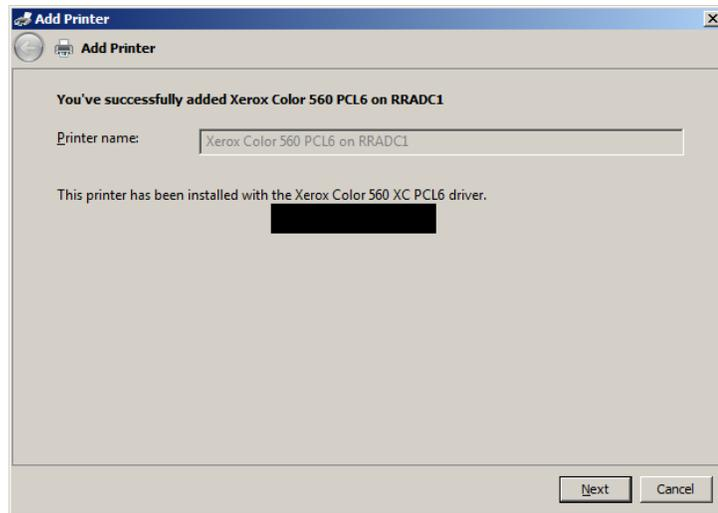

Figure 10-36 - Confirmation
- 16) If Windows was able to automatically configure the printer you will see a screen similar to Figure 10-36 below and you can click Next.